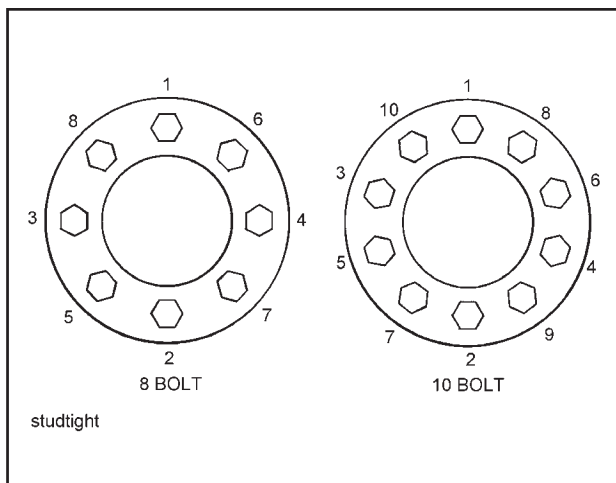

Figure 4-22 Stud Tightening Sequence
- d. Install the flange nut and tighten to 50 foot-pounds using the sequence in Figure 4-22. Then tighten to full torque of 450 to 500 ft. lbs.